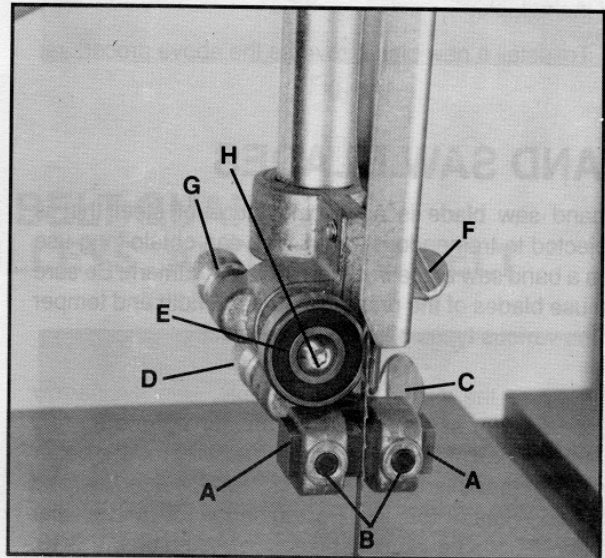

Fig. 28
1. The upper blade guides (A) Fig. 28, are held in place by means of the set screws (B). Loosen the set screws (B) to move the guides (A) as close as possible to the side of the blade, being careful not to pinch the blade. Then tighten the screws (B).
2. The guides (A) Fig. 28, should then be adjusted so that the front edge of the guides is just behind the "gullets" of the saw teeth. The complete guide block bracket can be moved in or out by loosening thumb screw (C) and turning knurled knob (D) Fig. 28. When guides (A) are set properly, tighten thumb screw (C).
3. The upper blade support bearing (E) Fig. 28, prevents the blade from being pushed too far to the back which could damage the set in the saw teeth. The support bearing (E) should be set $1/64$ " behind the blade by loosening thumb screw (F) and turning knurled knob (G) to move the support bearing (E) in or out.
4. The blade support bearing (E) should also be adjusted so the back edge of the blade overlaps the outside diameter of the ball bearing by about $1/16$ ". The bearing (E) is set on an eccentric and to change position remove screw (H) and bearing (E) Fig. 28. Loosen thumb screw (F), back out screw (G) and reposition shaft that bearing (E) is attached to.